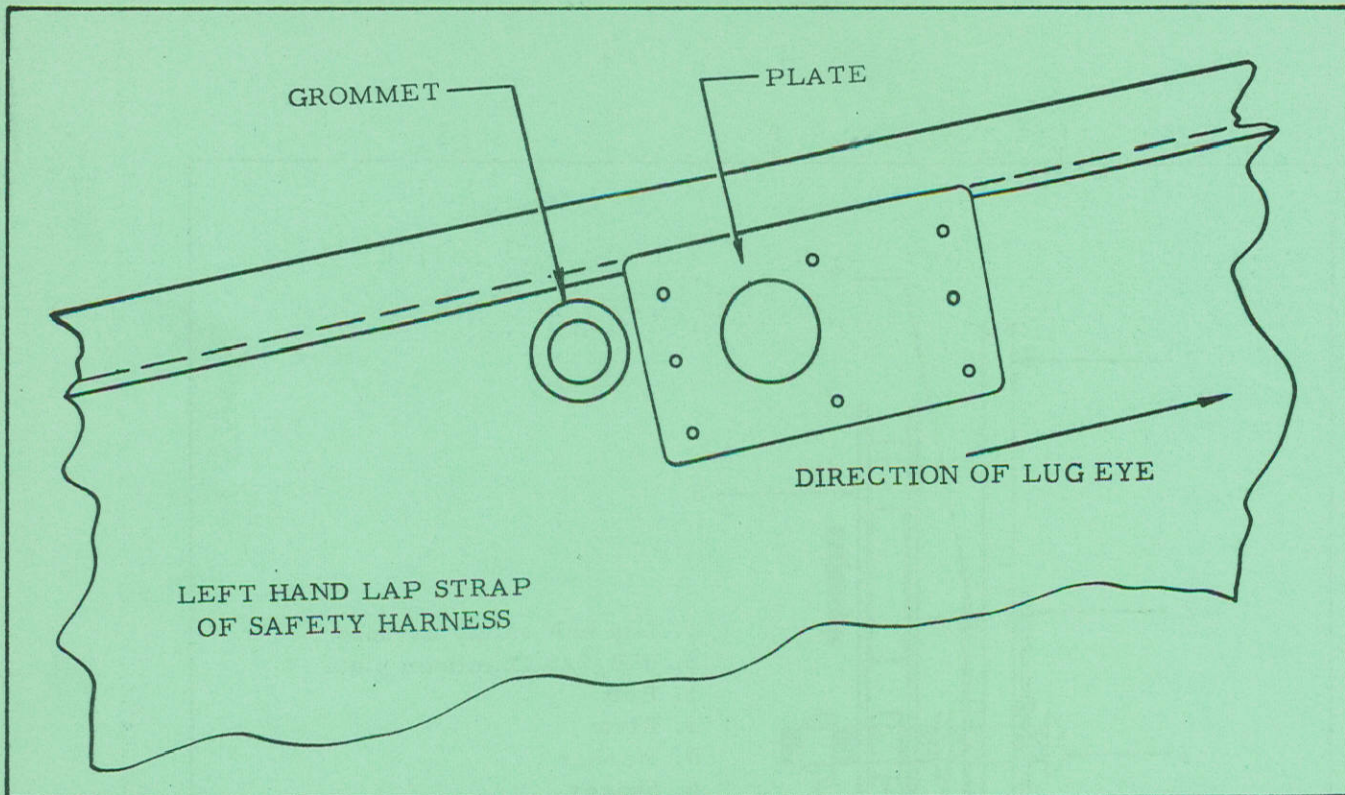

Figure 3
- (d) The brass grommet closest to left hand lap strap lug is to be carefully removed. Plates manufactured as per Figure 1 are to be riveted in position on lap belt as per Figure 3. Copper or aluminum rivets 1/16" in diameter are to be used for this. Slightly larger rivets may be used depending on availability of stocks, however round head style only is to be used. Care must be taken that 5/32" holes in plates line up with hole where grommet was removed. When riveting plates, a snug fit to safety harness must be obtained and any excess length of rivet is to be cut off before peening so that only enough to securely hold plated together is left for peening.